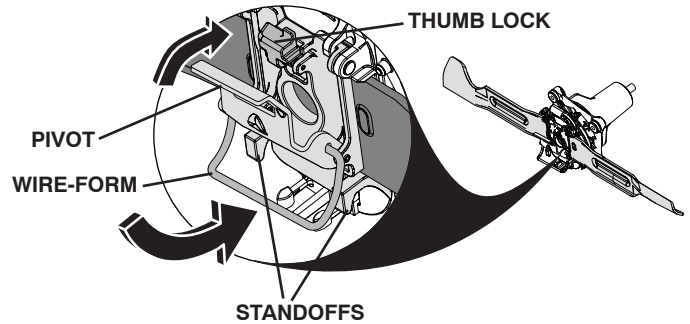

Fig. 23
- Push pivot closed until secured by the thumb lock. (See Fig. 23.)